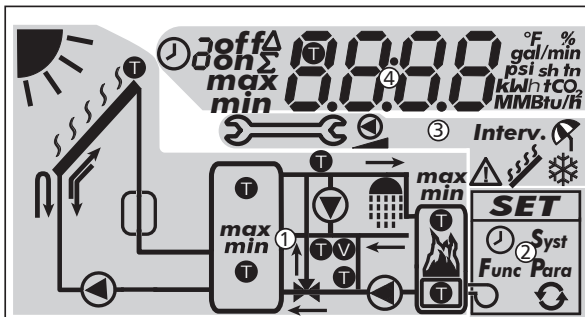

Fig. 8: Overview of the display areas (all elements visible)
The following table describes the symbols used in the system graphics (① in Fig. 8).
The settings menu (② in Fig. 8) contains the following entries:
The following table describes the pictograms used for functions (③ in Fig. 8).
The display of the operational and setting values (④ in Fig. 8) consists of the following elements:
①	Symbol for time control of functions. This symbol is displayed when <ul style="list-style-type: none"> <li>• a time restriction/control has been set,</li> <li>• the status of time restriction/control is displayed,</li> <li>• the time restriction blocks a temperature control (symbol flashes).</li> </ul>
②	Number of the time window that is currently being set/displayed or within which the current time lies. The time control of a function consists of 1 to 3 configurable time windows. Example: Time window 1: 06:00 – 08:00 Time window 2: 11:00 – 12:30 Time window 3: 17:00 – 19:00
③	Additional information: on, off: Switching state/condition on , off max, min: Maximum value, minimum value Σ: Summed operational value since first commissioning, cannot be reset Δ: Summed operational value since last reset to 0
④	Symbol is displayed when a temperature sensor is selected when setting a function.
⑤	Display of: <ul style="list-style-type: none"> <li>• Measurements</li> <li>• Settings</li> <li>• Error codes</li> <li>• Additional information, e.g. software version</li> </ul>
⑥	Physical unit of the value displayed in ⑤: °F, F, psi, gal/min, MBtu, MBtu/h, MMBtu, %, tn sh CO 2 Note The physical units are only displayed as appropriate.